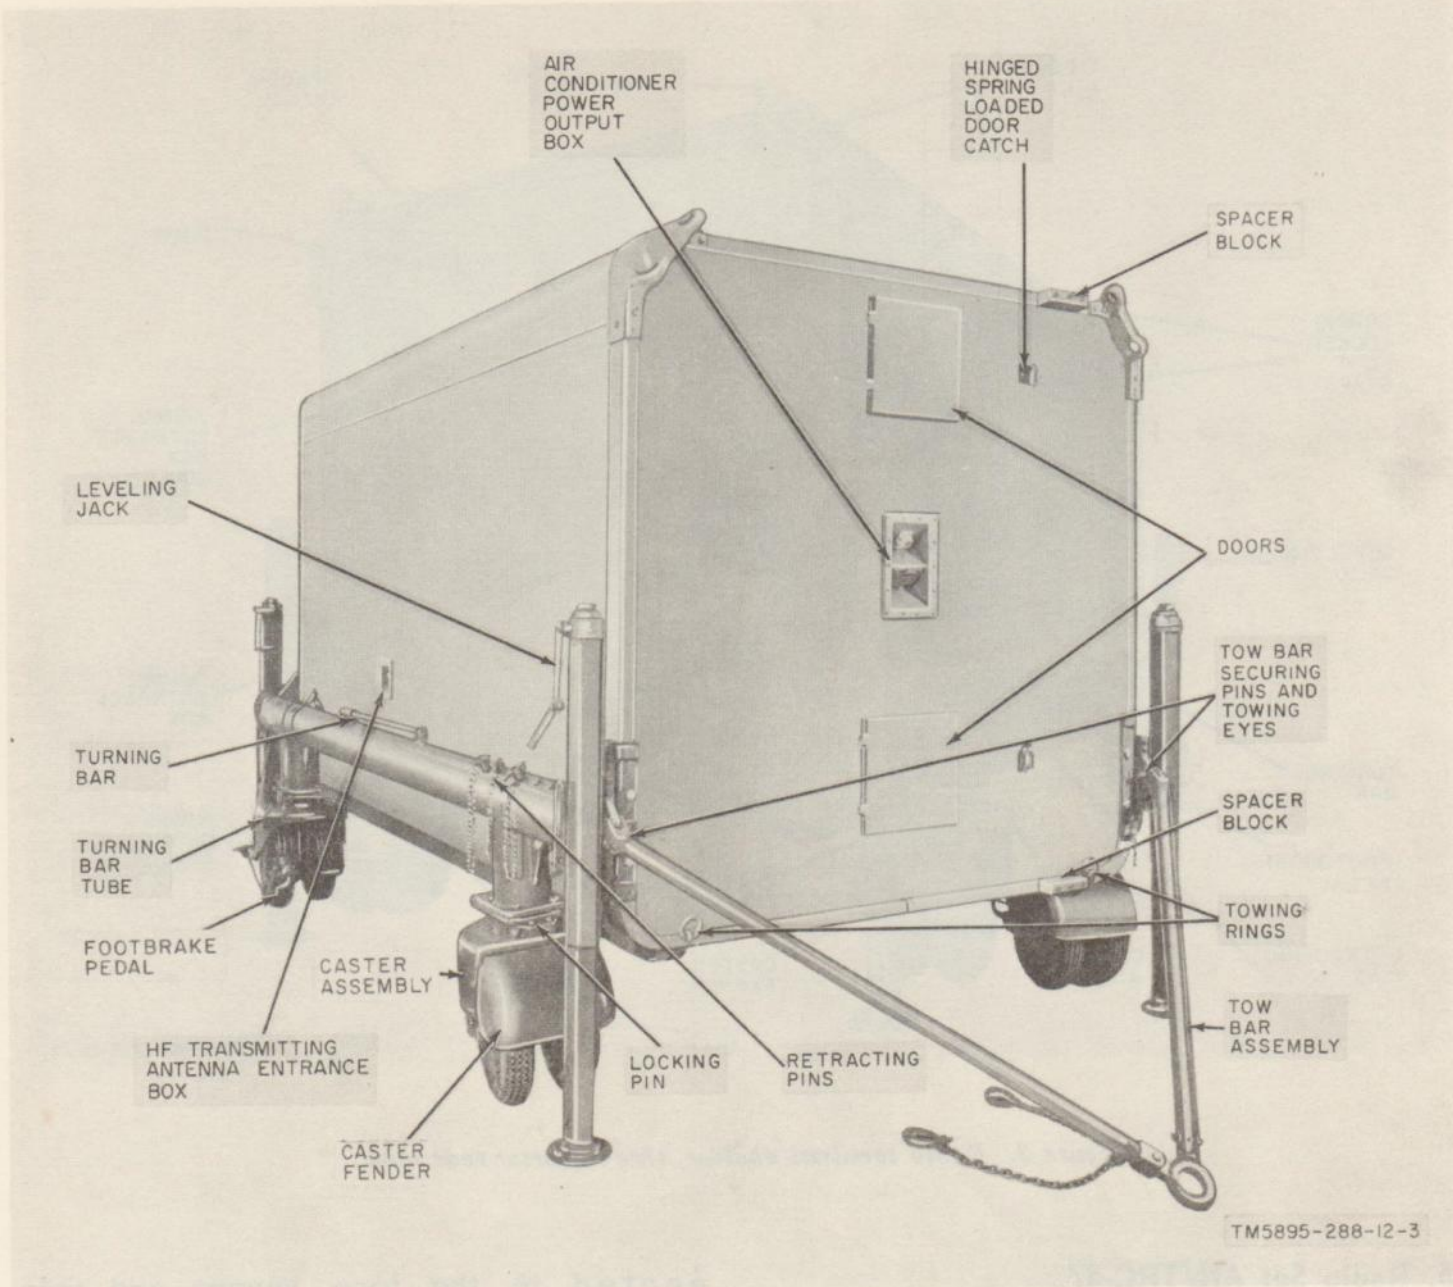
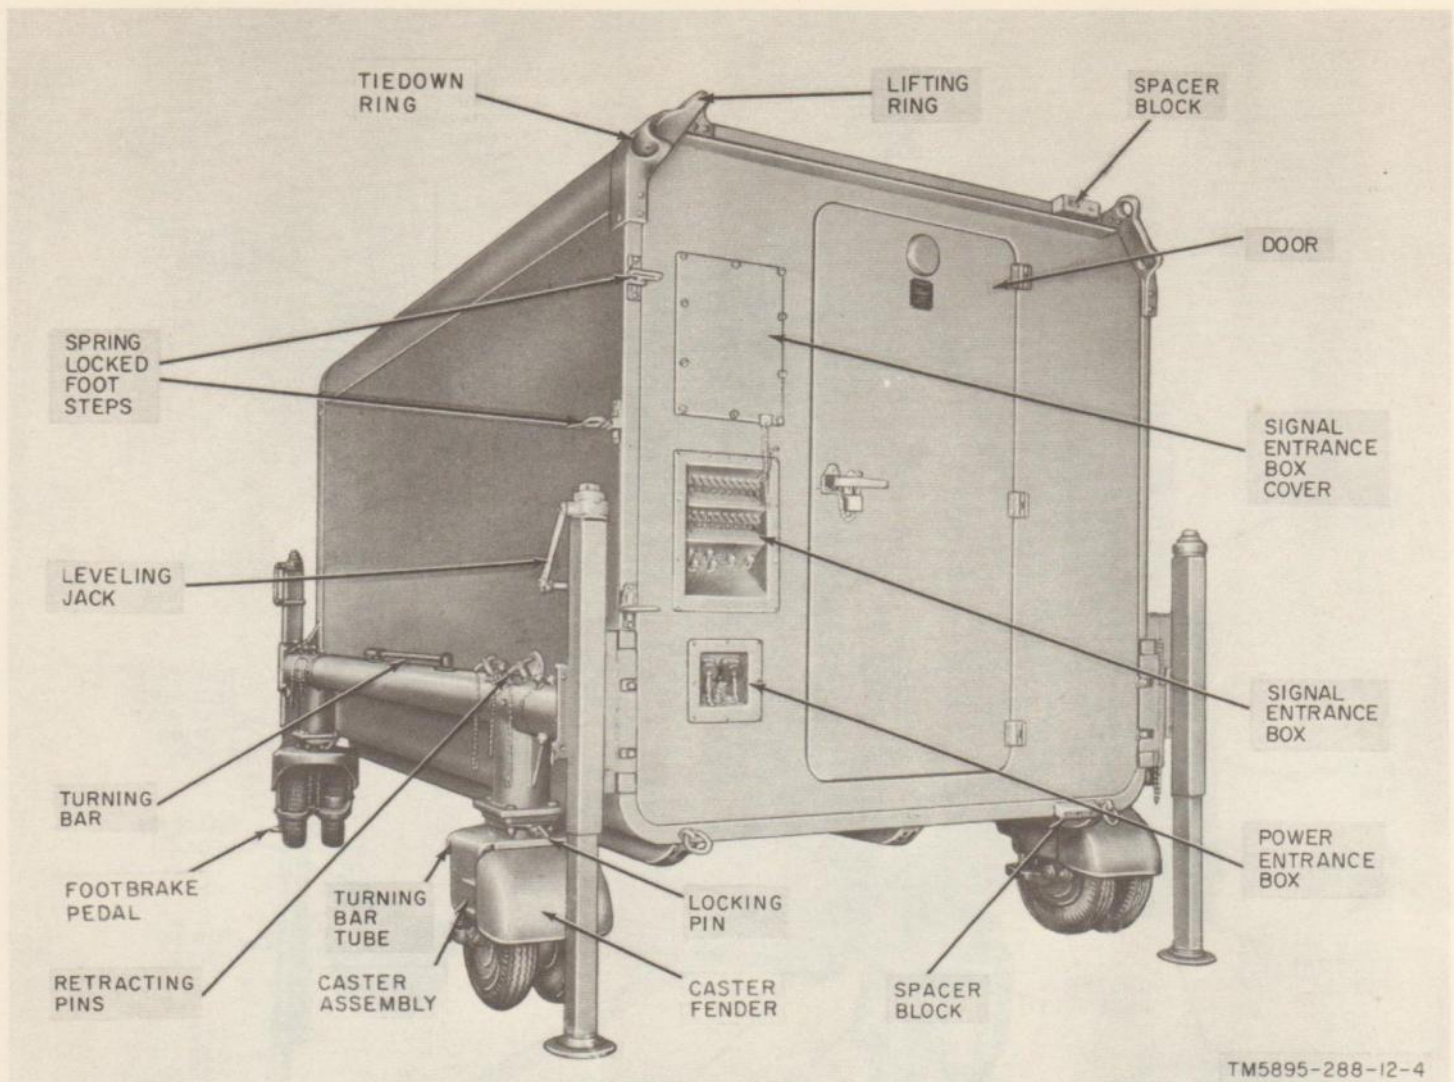

Figure 2. Radio terminal shelter and dolly assembly, three-quarter front view.
Figure 3. Radio terminal shelter, three-quarter rear view.
a. *General.* The shelter (fig. 2 and 3) is approximately 11 feet long, 6 feet wide, and 6 feet high. It weighs approximately 1,200 pounds empty and is fully insulated. The shelter may be transported on the dolly assembly shown in figures 2 and 3 or by helicopter or fixed-wing aircraft. The dolly assembly may be removed, and the shelter transported by truck. Signal and power wiring is distributed throughout the shelter by wiring raceways. All signal and input power connections are made at the power or signal entrance boxes on the exterior front wall. Figure 4 is an elevation drawing showing the inside of the shelter with equipment in place.
b. *Signal Entrance Box.* The signal entrance box (fig. 3) contains four pairs of binding posts for landline connections between the radio terminal shelter and the subscriber packages and sixteen pairs of binding posts for landline connections to a communications center or to additional subscribers. Four radiofrequency (rf) connectors are used for vhf antennas and two rf connectors for diversity receiving antennas. The hf transmitting antenna entrance box (fig. 2) contains two rf connectors for the hf transmitting antennas.
c. *Power.* Alternating current (ac) power from the 10-kw generators is connected at the power entrance box (fig. 3). The power control and distribution panel
(C, fig. 4) controls power to all tributary circuits in the radio terminal shelter. Power for the external air conditioner is obtained from a receptacle on the air conditioner power output box (fig. 2).